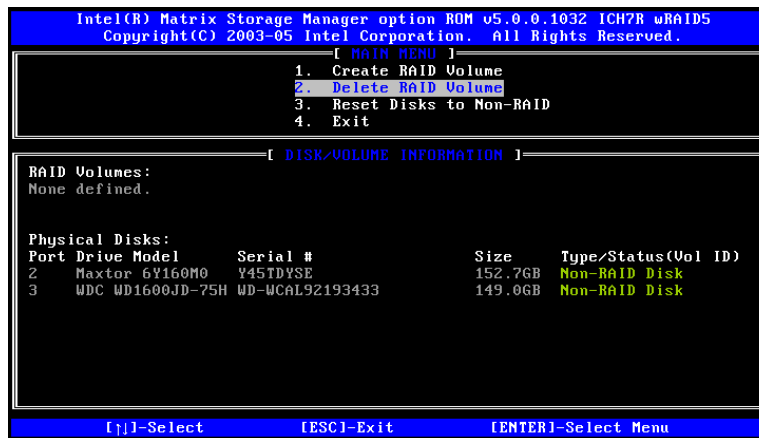

Figure A-4: Non-RAID Disks
Step 4: Non-RAID Disks. After deleting the RAID volume, the disks belonging to the volume will be shown as non-RAID disks. See **Figure A-4**.